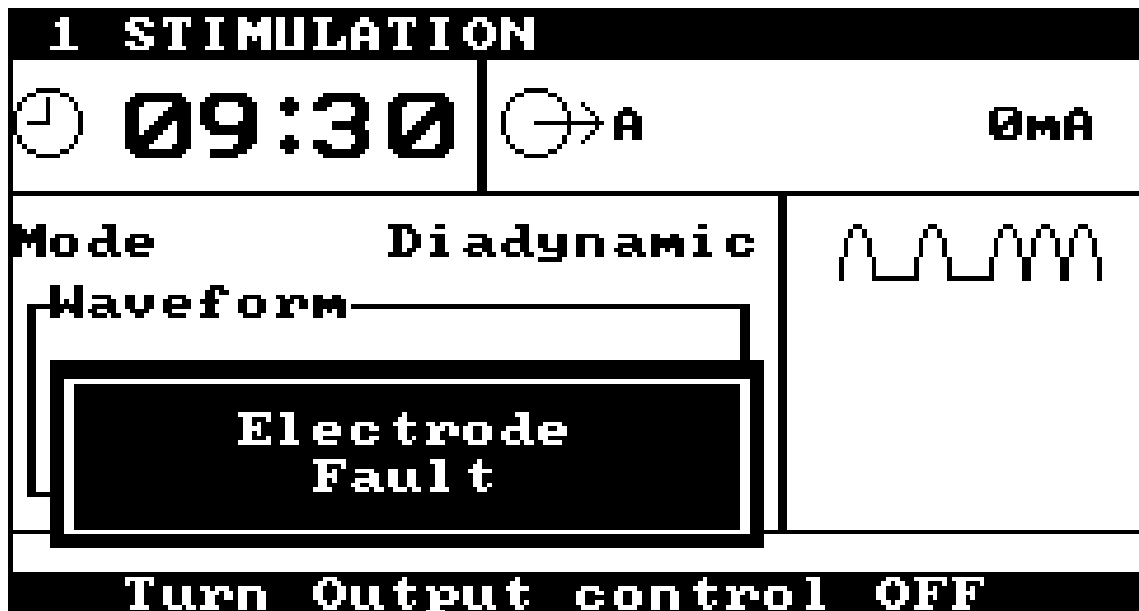

Figure 27 - Electrode fault display, diadynamic mode
24. In constant current applications, if the module detects a high electrode impedance at any time during treatment then the output of the Stimulation Module is immediately terminated and the error is displayed (see figure 27). Turn the Output Control off and check that the electrodes are secure, and the sponges are damp. Also, check all interconnecting leads before re-applying the output to the patient. Note that in soft water areas it may be necessary to add a small amount of bicarbonate of soda to the water used to wet the sponges to achieve adequate contact.